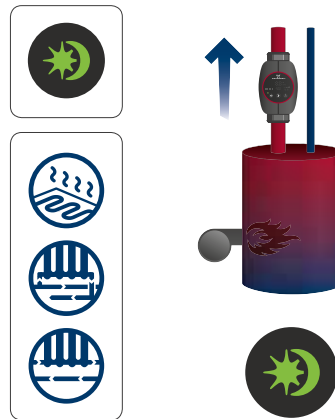

Fig. 31 Automatic night setback activated
- The pump must be installed in the flow pipe. See fig. 31.
Activate the manual summer mode by pressing the automatic night setback button 3 to 10 seconds. See fig. 31. The green light field flashes quickly. After a short while the display turns off and the green light field  flashes slowly.